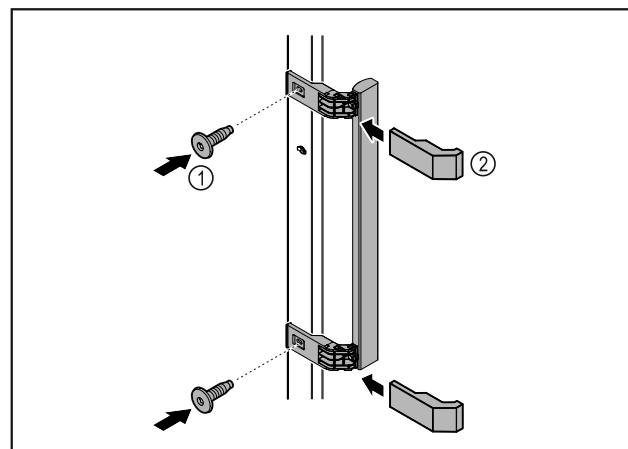

Fig. 6
- Attach handle from accessory kit to the door using the screws supplied Fig. 6 (1).
- Put on covers Fig. 6 (2).